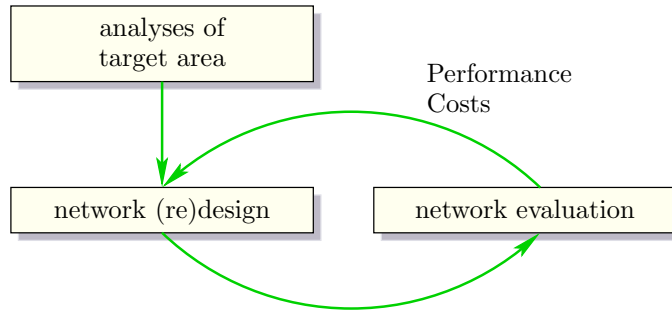

Figure 1: Network design cycle.
- Network design and planning, i.e traffic flow/ traveling speed/ waiting times etc. for a given network layout and origin-destination demand patterns. (See scheme of Fig. 1.)